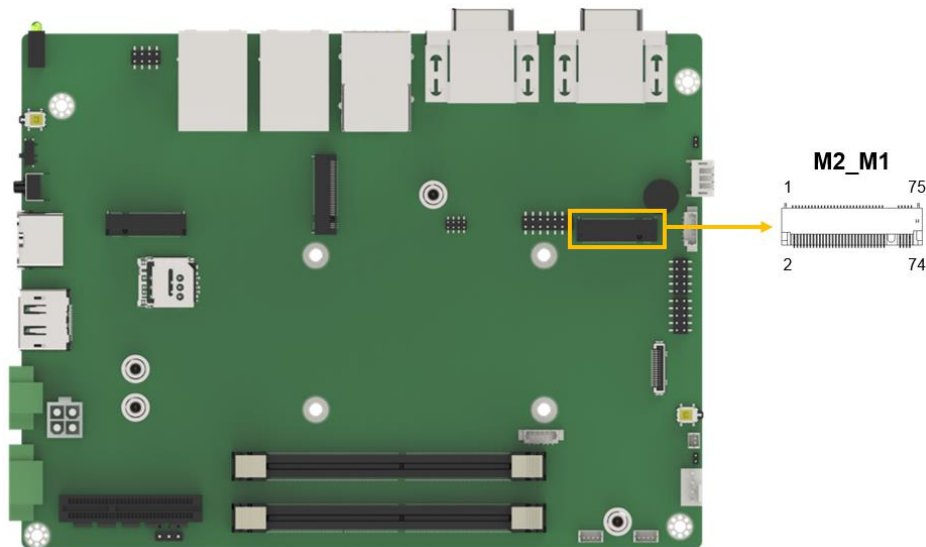

Figure 4-8: M.2 M-key Slot Location
- CN Location:** See **Figure 4-8**